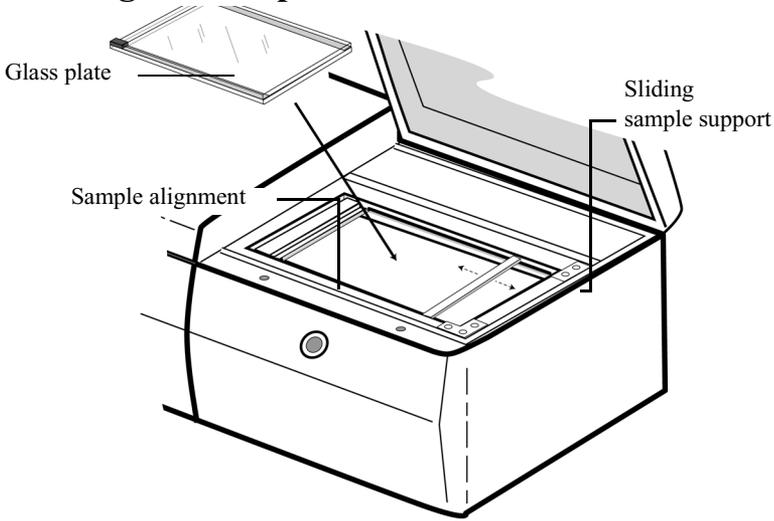

Figure 3-5. Loading the glass plates on to the scanner bed
Orientation of glass plates. Scanning begins in the upper left corner of the scanner bed, near the sample alignment surface. (See Figure 3-5.) The longer of the two glass plates should rest on the sample supports.
4. Carefully and firmly place the end of the longer glass plate up against the sample alignment surface. See Figure 3-5 on page 3-10.